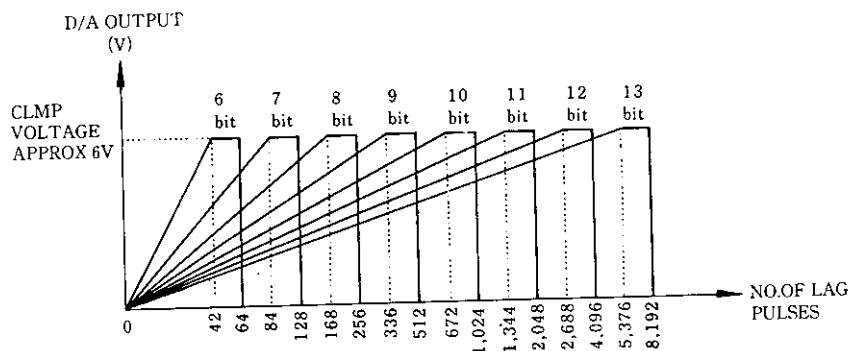

Fig. 7.3 Relation of Lag Pulses and D/A Output
- (3) Fig. 7.3 shows the relation of the number of deviation counter lag pulses ( $\epsilon$ ) and D/A converter output with D/A gain setting bits.